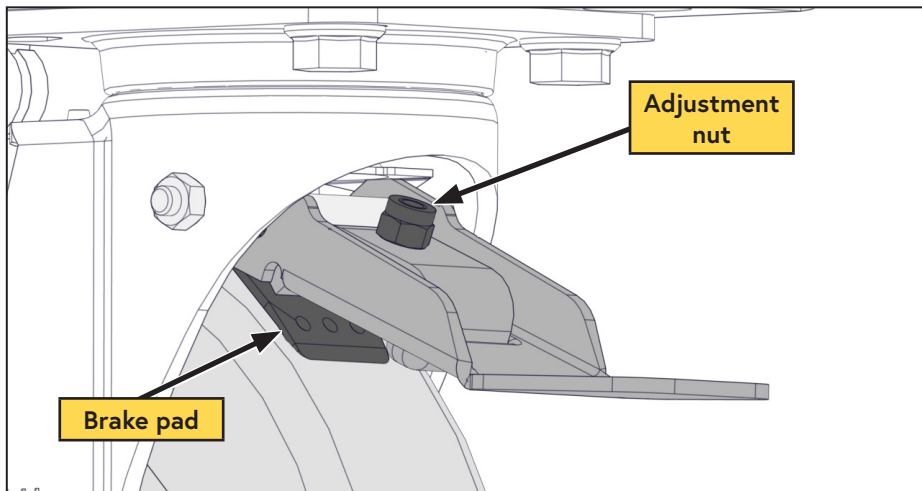

Figure 17 — Brake adjustment
- Inspect the wheel brake and adjust as necessary by rotating the brake adjustment nut until the brake pad holds the unit in place (Figure 17).